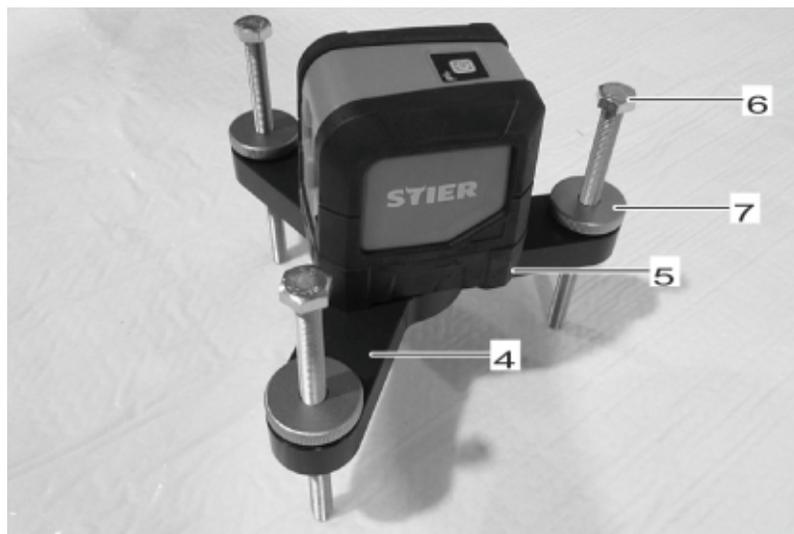

Figure 68
- ⇒ **Figure 68 -4-** – Stand
- ⇒ **Figure 68 -5-** – Battery compartment
- ⇒ **Figure 68 -6-** – Threaded rods for aligning the laser
- ⇒ **Figure 68 -7-** – Knurled nut